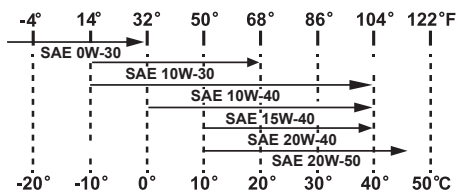

Figure 5-21
- See Figure 5-21 for oil recommendations.